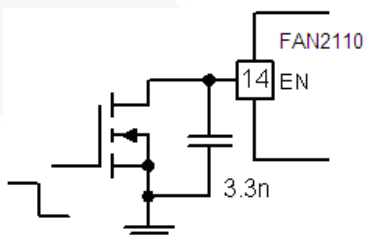

Figure 30. Enabling with External Control
FAN2110 has an internal pull-up to the enable (EN) pin so that the IC is enabled once V_{CC} exceeds the UVLO threshold. Connecting a small capacitor across EN and AGND delays the rate of voltage rise on the EN pin. The EN pin also serves for the restart whenever a fault occurs (refer to the *Auto-Restart* section). If the regulator is enabled externally, the external EN signal should go HIGH only after V_{CC} is established. For applications where such sequencing is required, FAN2110 can be enabled (after the V_{CC} comes up) with external control, as shown in Figure 30.